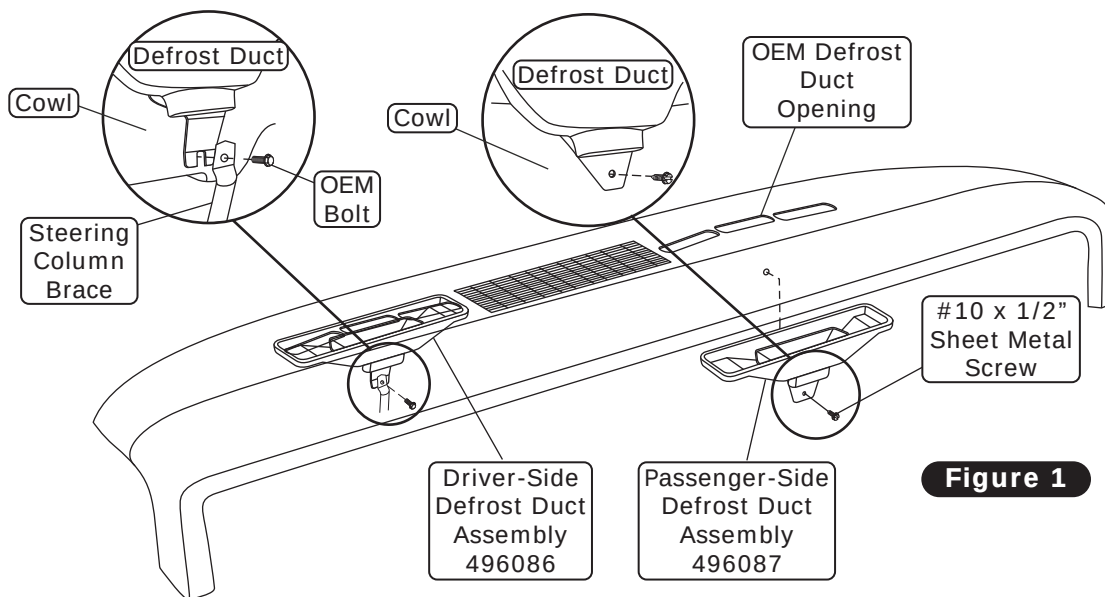

Figure 1
1. Install the defrost ducts under the dash and align them with the OEM opening. Secure the passenger-side defrost duct to the cowl using #10 x 1/2" sheet metal screws (See Figure 1, below). **NOTE: Driver-side defrost duct installs behind the steering column brace and secures using the steering column OEM bolt as shown below.**